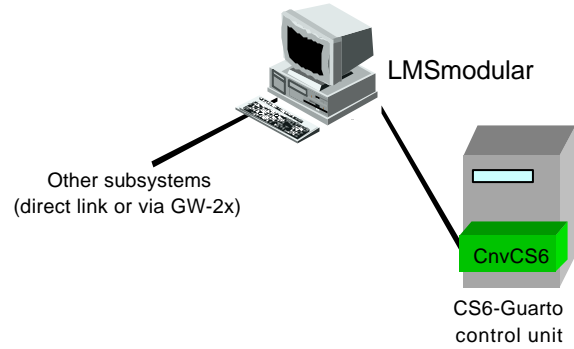

Fig. 2
- **Direct connection to LMSmodular host:** one Guardto control unit, equipped with internal parallel LON adapter K31070 and CnvCS6, is connected to the COM port of LMSmodular PC station; in this architecture, the CnvCS6 emulates the 1-level GW-21 gateway (see Fig. 2)